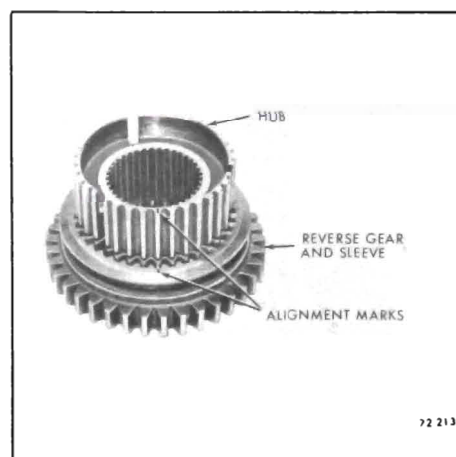

Figure 72-213 - Starting Hub into Gear
2. Start hub in sleeve making sure alignment marks are indexed. See Figure 72-213.